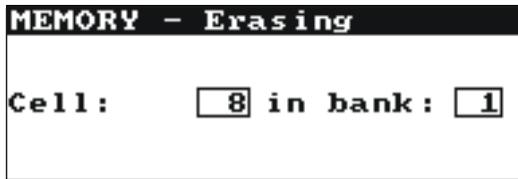

Fig.25. Deleting a memory cell: **1** – bank No, **8** – cell No, **1** – bank with at least one cell used, **8** – a cell in use
- Using keys \blacktriangle and \blacktriangledown choose the bank number and using keys \blacktriangleleft and \blacktriangleright the cell number you want to delete (Fig.25)